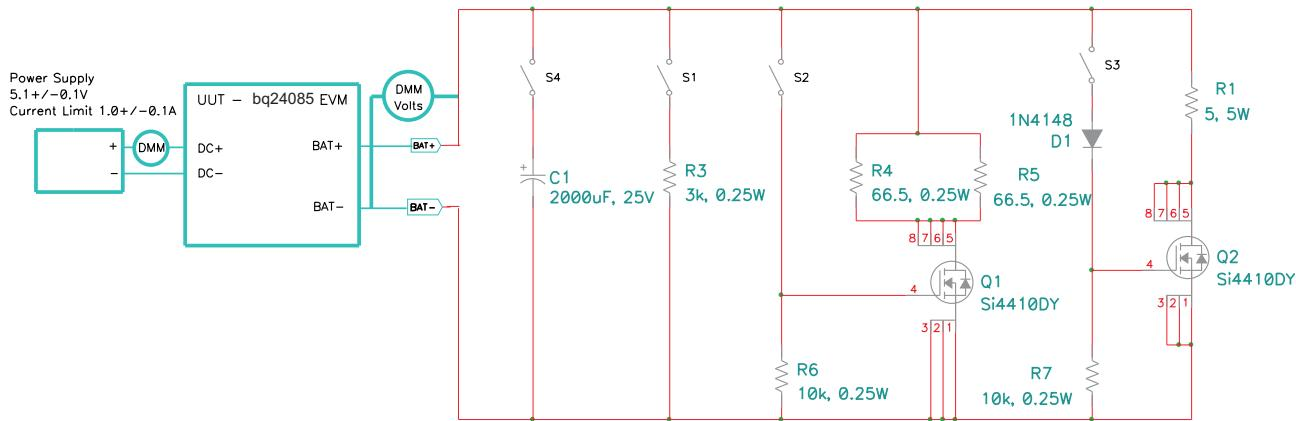

Figure 1. Load Test Board
- Load test board shown in Figure 1